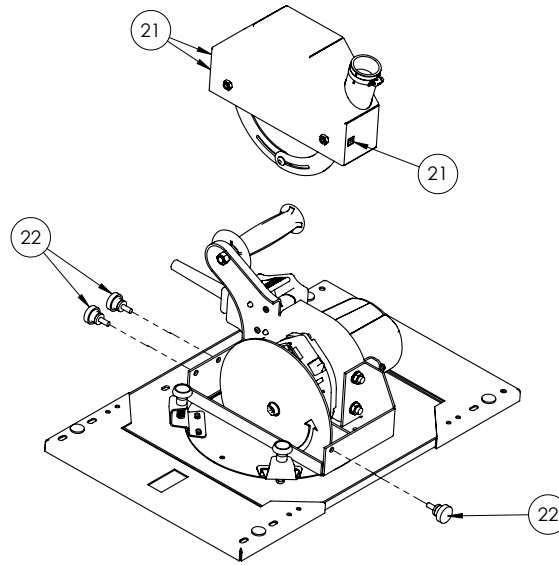

Figure 28: Removing/Installing the Blade Guard (Models C4, C5, H4, H5, H6)
The blade guard (Fig. 28 & 29, #21) is attached to the carriage with torque knobs (Fig. 28 & 29, #22). Remove the torque knobs to remove the guard. Be sure to leave the rubber washers on the torque knobs to prevent the knobs from slipping.
Always install the blade guard before operating the saw (Fig.28 & 29 #21).
2. Remove the blade guard see **“Removing and Installing the Blade Guard”** and (Fig. 28 & 29, #21).